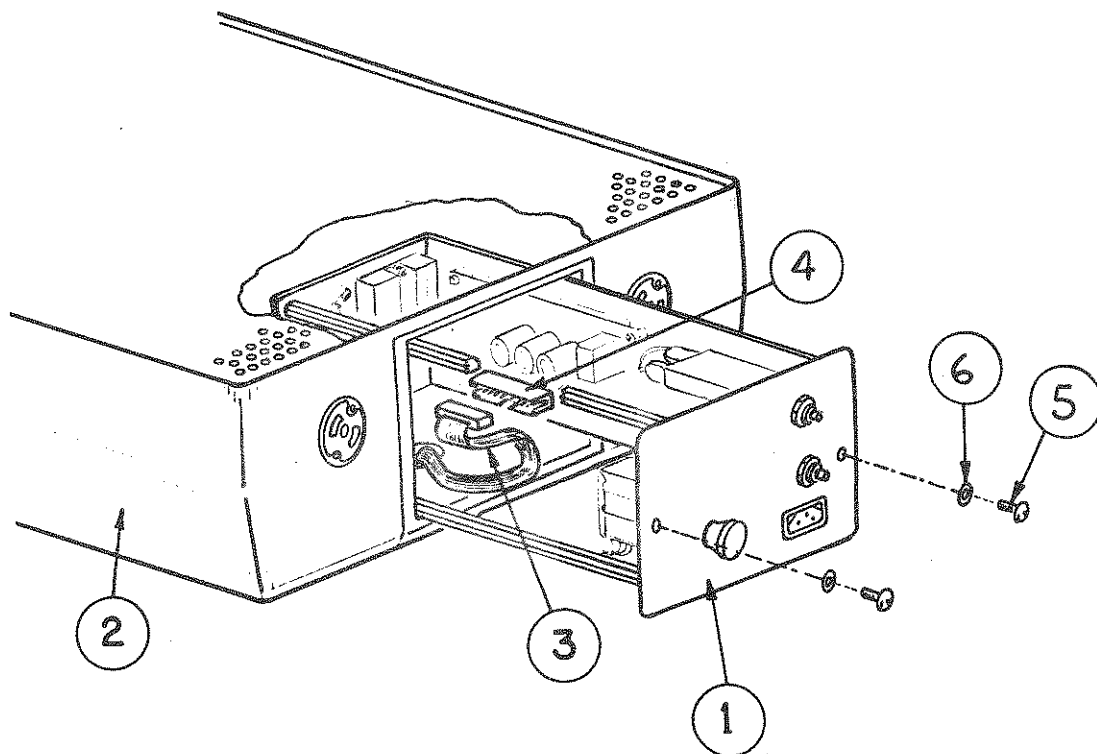

FIGURE 5.1 POWER MODULE REMOVAL AND REPLACEMENT
1. DISCONNECT THE POWER CORD from the Power Module (1).
2. REFER TO FIGURE 5.1 and remove the two mounting screws (5) and washers (6) from the Power Module and carefully pull the Power Module out of the Warmer Housing (2) far enough to disconnect the interconnecting ribbon cable (3) from connector J10 (4) on PCB1.